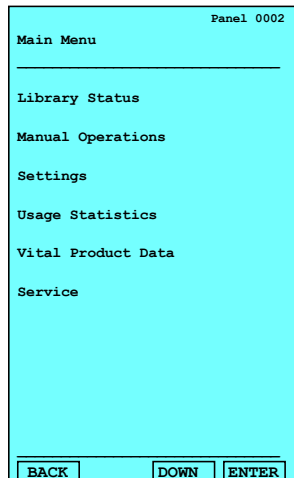

Figure 2-41 IBM TS3500 operator panel: Main Menu
1. From the library's Activity window, click **Menu**. The Main Menu displays as shown in Figure 2-41.